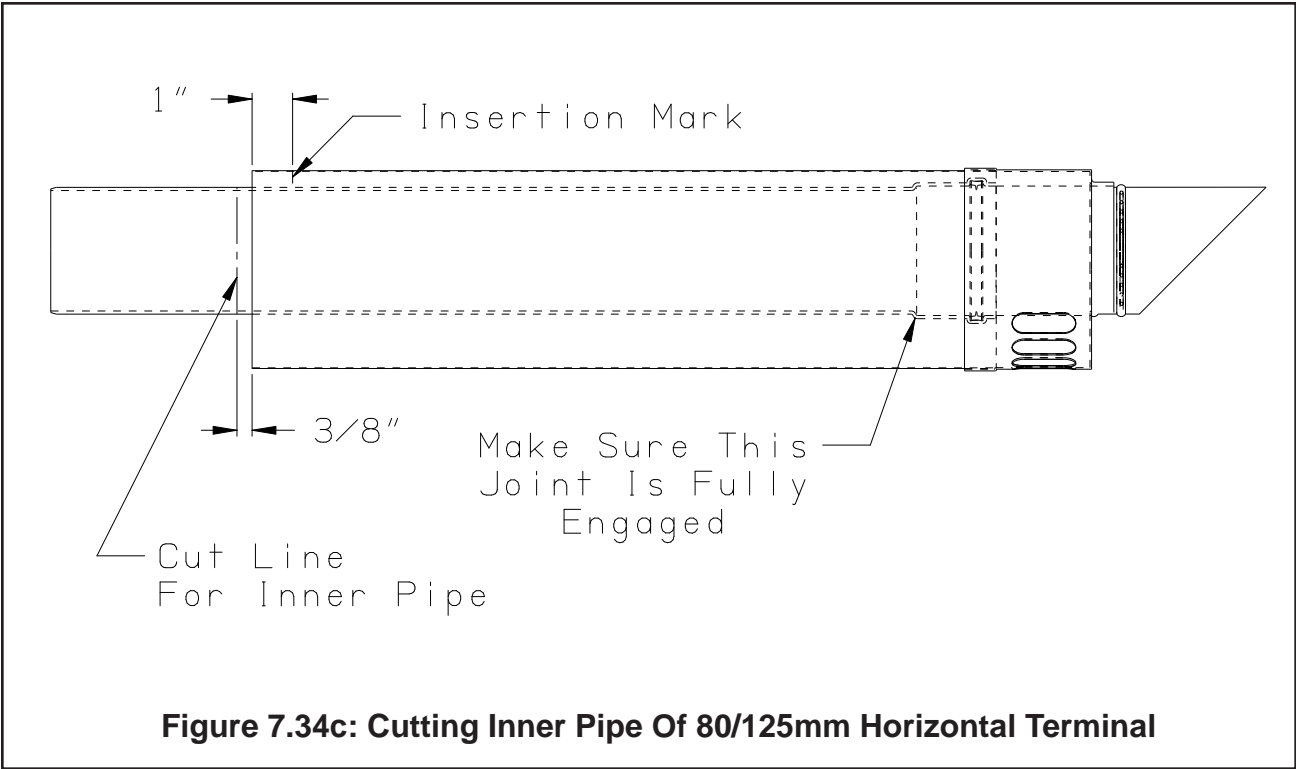

Figure 7.34c: Cutting Inner Pipe Of 80/125mm Horizontal Terminal
- f) Reinstall the inner pipe in the terminal, making sure that the female end of this pipe is completely bottomed out over the aluminum male connection visible behind the air intake grill. Place a mark on the inner pipe 3/8" beyond the end of the outer pipe (Figure 7.34c). Use a fine tooth hacksaw to cut the pipe and be careful to cut the pipe square (if necessary, the pipe can be removed from the terminal again for cutting). De-burr the cut edge of the pipe with a file, razor blade, or fine sandpaper.
- g) Make a mark on the terminal section 1" from the cut end of the outer pipe as shown in Figure 7.34c.